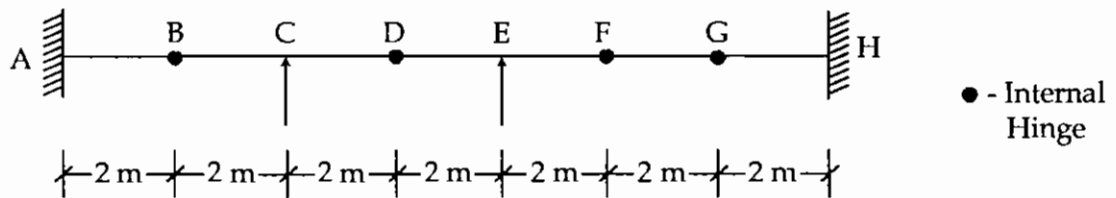

Figure 6 [Q. No. 4 (B)]
3. (A) A fixed beam ACB of length $2L$ is fixed at A and B, $AC = CB = L$. While portion AC has a moment of inertia of $2I$, portion CB has a moment of inertia of I . If the beam is subjected to a uniformly distributed load of ' ω ' per unit length over the entire span, determine the fixed-end moments at A and B using slope-deflection method. 12
- (B) A rigid portal frame ABCD has two unequal vertical legs, $AB = 4\text{m}$ and $CD = 6\text{m}$ with member BC horizontal and 8m long. The supports A and D are fixed and all the members have same moment of inertia I . The member BC carried a uniformly distributed load of 40 kN/m and a horizontal force ' H ' acts at joint C. Find the magnitude and sense of the force ' H ' such that the frame does not sway under the given loading. Use moment - distribution method. 13
- (C) A two-span continuous beam ABC has simple supports at A and C and $AB = BC = L$. Span AB carries a central concentrated load of ' P '. Compute the redundant reaction at the central continuous support B if it settles by ' Δ '. Use consistency of deformation method. 9
4. (A) A cable is suspended between two points A and B located 50m apart horizontally. B is higher than A by 12.5 m. At the midpoint of the span AB, the cable is 9.375 m below the point A. The cable carries a uniformly distributed load over the span. Determine the position and sag of the lowest point and curved length of the cable. **11**
(B) Using the Muller-Breslau principle draw the influence line diagrams for the following actions for the compound beam shown in Figure. 6 and show the salient values. **10**